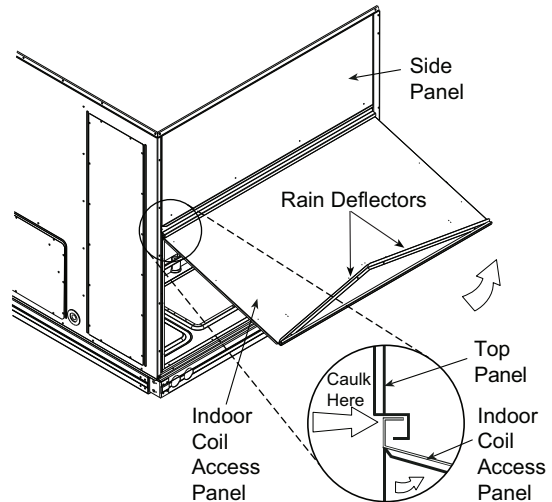

Fig. 10 — Indoor Coil Access Panel Relocation
1. The indoor coil access panel will be used as the top of the hood. If the panel is still attached to the unit, remove the screws along the sides and bottom of the panels. See Fig. 10.